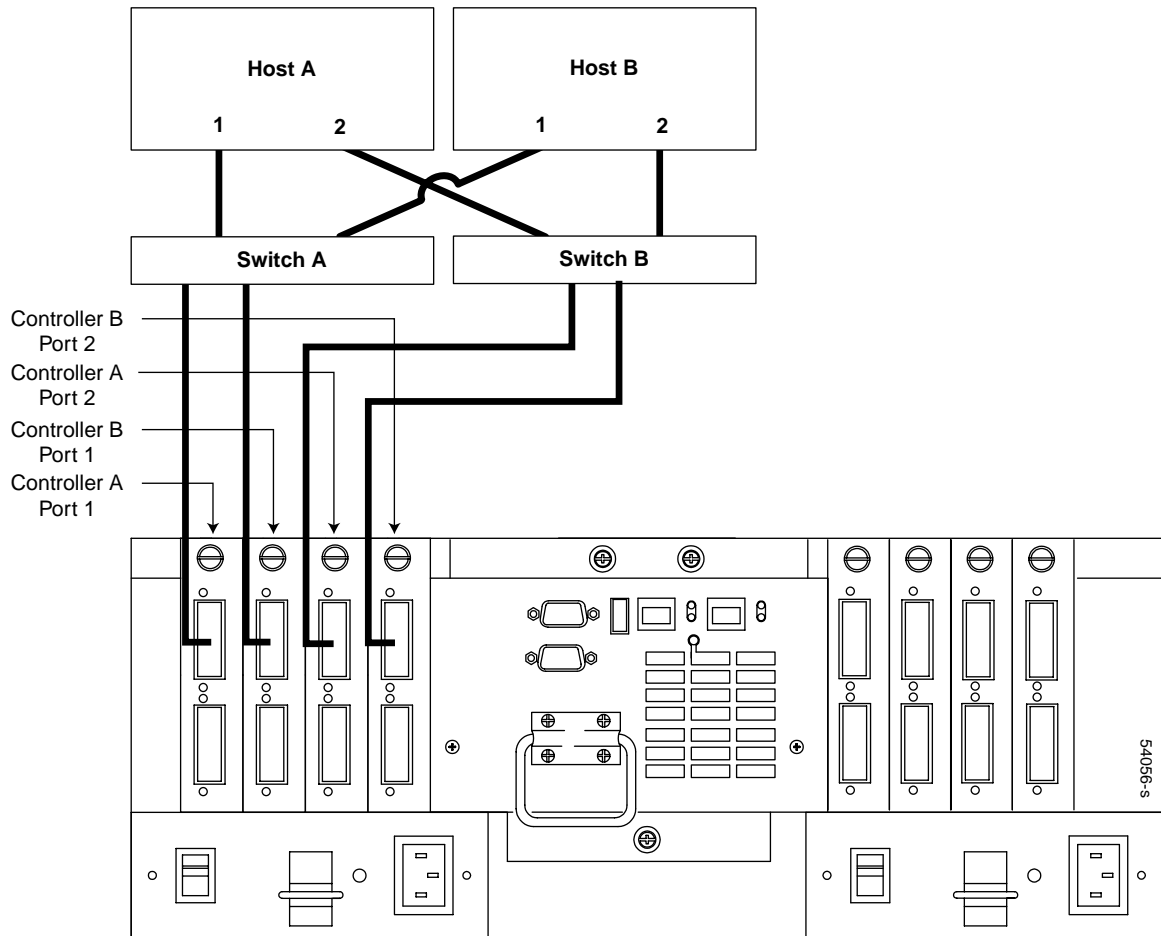

Figure 8-12 Multi-Switch Connect (2 Host)
Figure 8-12 shows a high-availability (HA) switch configuration.